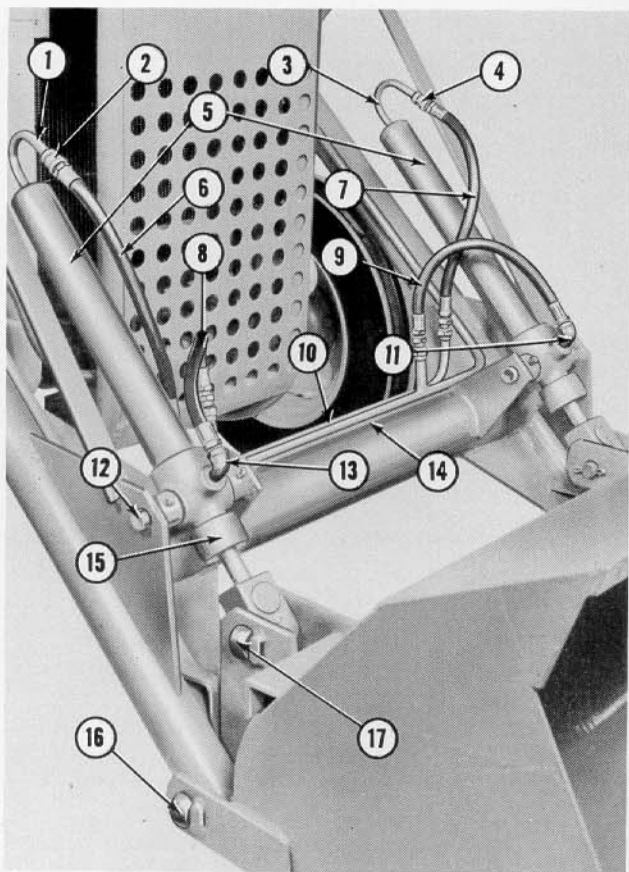
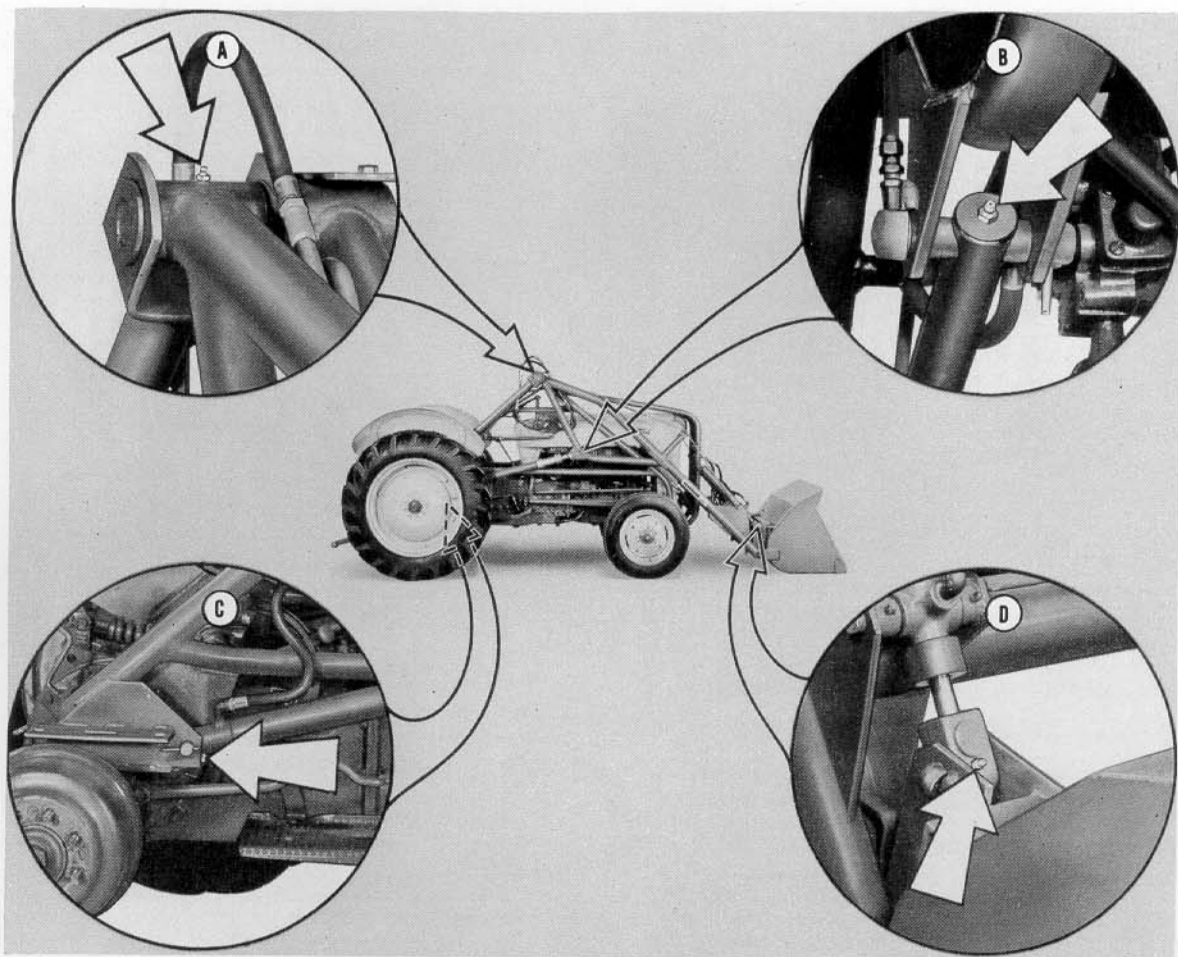

Figure 14
Figure 15
- a. Turn the reducer couplings (2) and (4), Figure 14, onto the pipes (1) and (3), and then turn the pipes into the ends of the cylinders (5) as shown.
- b. Turn the street ells (11) and (13), Figure 14, into the cylinders.
- c. Position the bucket cylinders (5) as shown in Figure 14 and attach each side of each cylinder to a support plate with a pivot pin (12) and cotter pin.
NOTE: The cap (15), Figure 14, on each bucket control cylinder should be tightened hand tight.
- a. Turn the hydraulic hoses (6) and (7), Figure 14, into the reducer couplings (2) and (4). Attach the other ends to the outlets in the hydraulic line (10).
- b. Connect the remaining hoses (8) and (9), Figure 14, to the ends of the hydraulic line (14) and to the street ells (11) and (13).
19. Attach the bucket to the lift arms with two long pivot pins (16), Figure 14, and secure with cotter pins.
20. Attach each cylinder ram to the bucket with two pivot pins (17), Figure 14, and the cotter pins provided.
22. Install the eight lubrication fittings, four on each side of the loader, as shown in Figure 15.
There are eight grease gun fittings on the Dearborn Industrial Loader: one on the pivot sleeve of each lift arm (A), Figure 15, one on the piston shaft of each hydraulic cylinder (B), one on the rear end of each hydraulic cylinder (C), and one on the ram of each bucket cylinder (D). Lubricate the loader immediately after assembly and every eight hours of operation thereafter. Also, oil the two pins which support each bucket control cylinder. See (12), Figure 14.